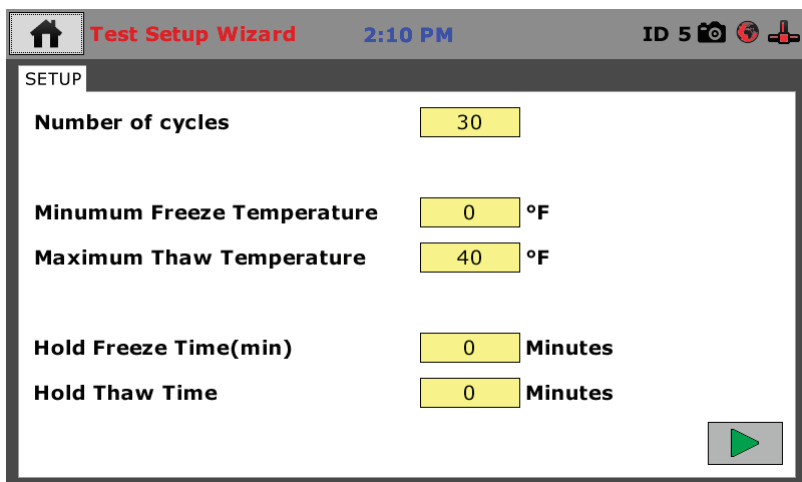

Figure 19
- 2) When the screenshot is being taken, there will be a camera icon in the top right corner, as seen in figure 19 above.